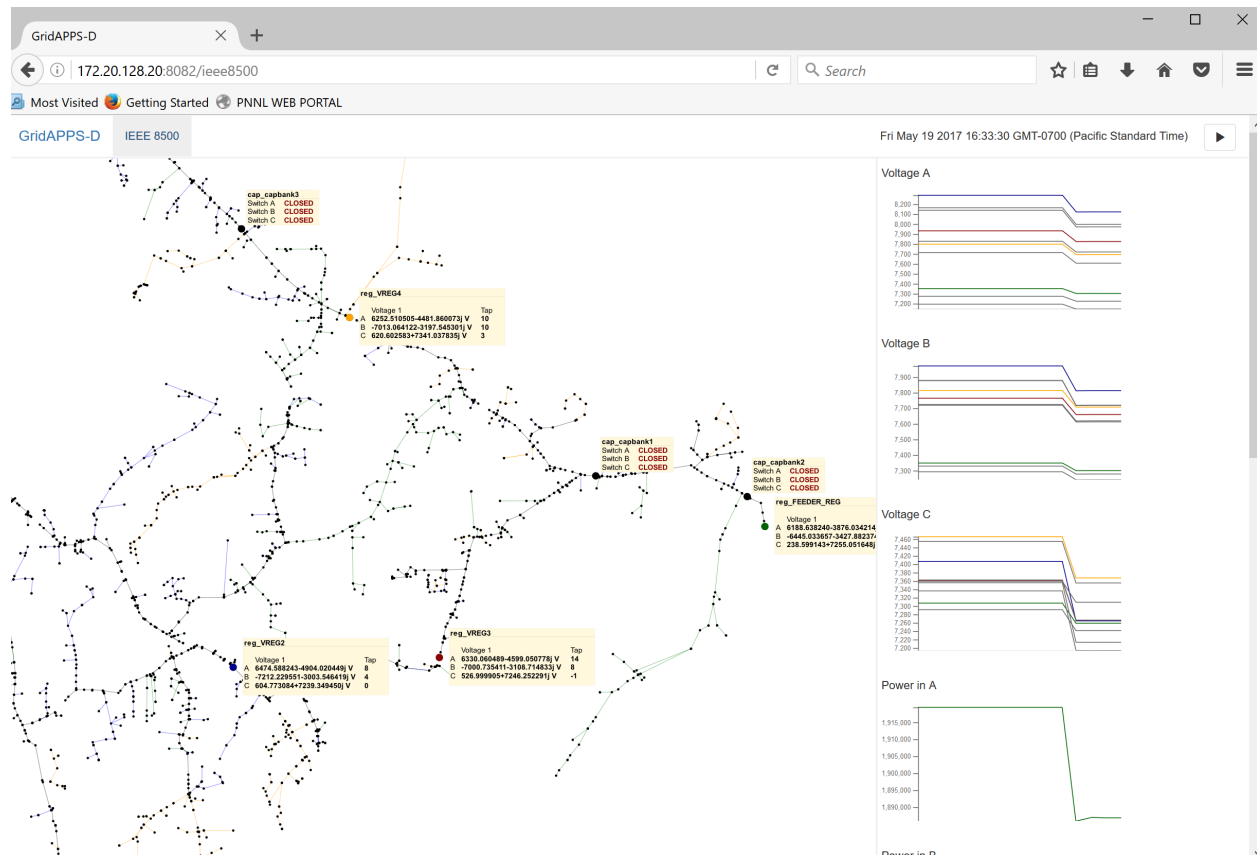

Figure 1: GridAPPS-D Release Cycle 1 Demo of the Volt-Var Optimization Running on the IEEE 8500-node test system.
- (b) Click on the IEEE 8500 link in the top left of the webpage (see Figure 1).
The demonstration runs a continuous loop of load variations with a Volt-Var Optimization (VVO) application [CIT5] controlling capacitor banks on the IEEE 8500-node test system [CIT2]. Most of Figure 1 is devoted to a map layout view of the test circuit, with updated labels for capacitor banks and voltage regulators. On the right-hand side, strip chart plots of the phase ABC voltages at capacitors and regulators, phase ABC substation power levels, and phase ABC regulator taps are continually updated. Capacitor bank labels on the circuit map view change between OPEN and CLOSED to show the bank status as load varies and the VVO application issues control commands. While GridAPPS-D runs the demo, GridLAB-D [CIT8] simulates power system operation and exchanges information with the VVO application using GOSS [CIT6] and FNCS [CIT7].